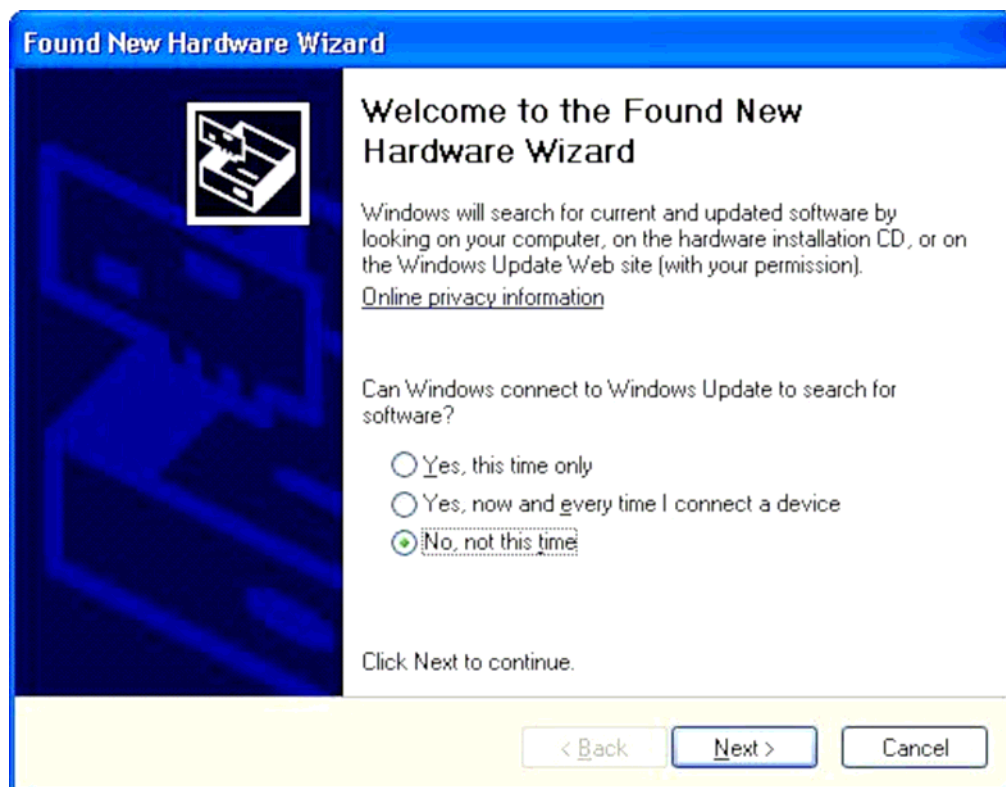

Figure 2.6
- The Found New Hardware Wizard will launch automatically to install the COM port emulation drivers. As above, select "No, not this time" From the options and click "Next" to proceed with the installation (Figure 2.6).